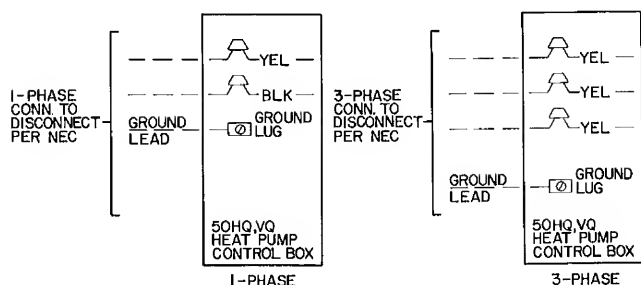
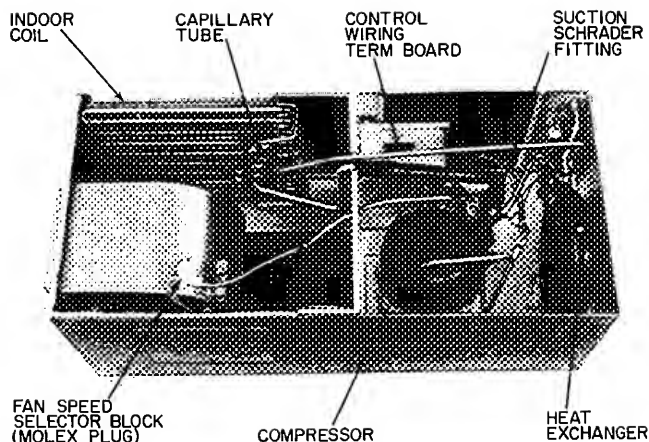

Fig. 6 — Line Power Connections
Fig. 7 — Typical Component Arrangement (50HQ014-042 Shown)
BRING POWER LEADS INTO UNIT — Extend leads from disconnect per NEC thru hole provided (Fig. 1 and 2) into line wiring splice box, Fig. 6.
CONNECT GROUND LEAD TO GROUND LUG IN SPLICE BOX for safety. Connect power wiring. See Fig. 6. Splice line power leads to yellow and black pigtailed on single-phase units or yellow pigtailed on 3-phase units. Use wire nuts. Tape each connection.
2. Locate Molex fan speed selector block on fan housing, Fig. 7. Selector block receptacle 1 is high fan speed, receptacle 2 is medium fan speed and receptacle 3 is low fan speed. Yellow and black fan motor power leads from control box are connected to selector block receptacle C and 1. Yellow lead is common, black lead is speed-change lead.
— Power leads are brought thru 1/2-in. hole provided in unit, Fig. 1 and 2. Extend leads to control wiring terminal board located on top of control box, Fig. 7. Connect leads to terminal board as shown in Fig. 6.